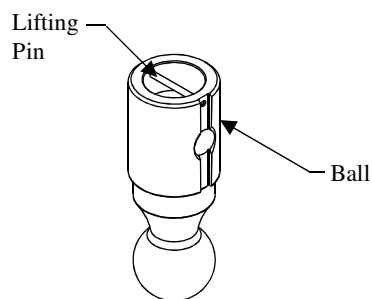

Figure 5
- With the ball in the stored position (see figure 5). Check for clearance between ball and truck equipment (I.E. differential, brake lines, electrical lines, and others) by measuring from axle up to rubber bumper stop and from ball to nearest item. If insufficient space is present, inform customer not to store ball in the head when carrying heavy loads. The axle to the rubber bumper stop distance should be less than the ball to nearest item.